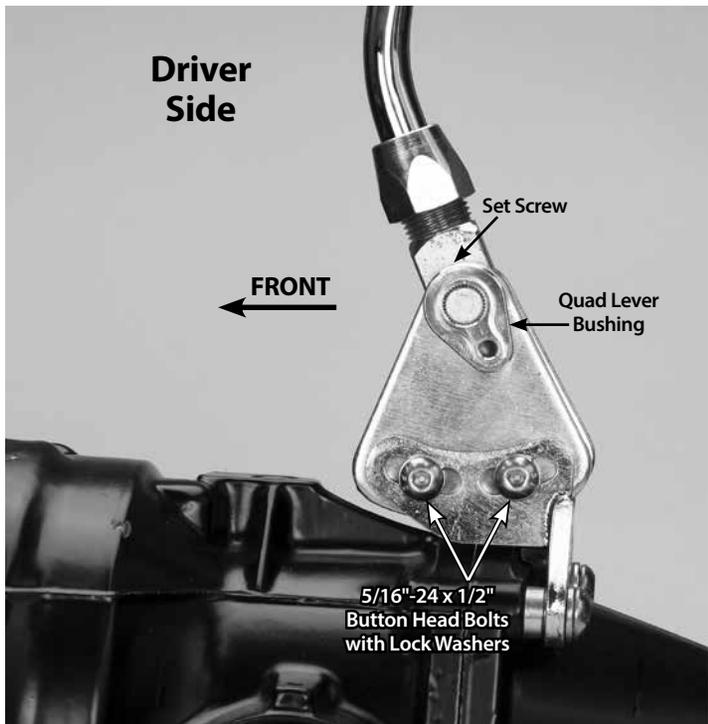

Fig. 3
Step 4: Insert the shifter assembly into the tailmount bracket so the bolt holes line up with the curved, slotted holes in the welded banana brackets, and install the 5/16"-24 x 1/2" button head bolts and lock washers. **Fig. 3**